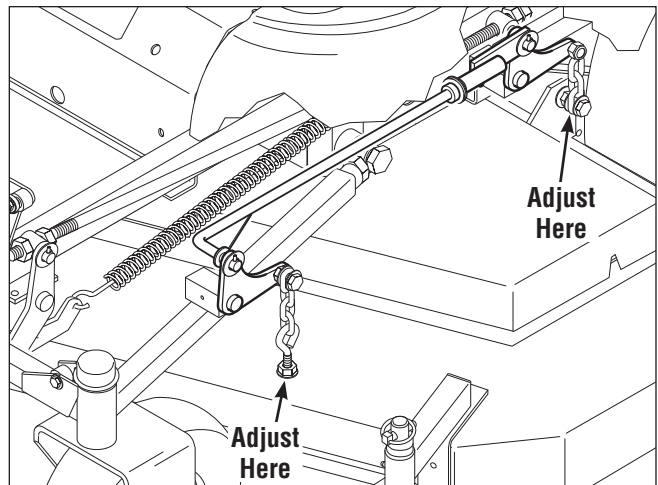

Figure 46. Deck Level & Spring Length Adjustment
4. Adjust the front eyebolts until the chains are tight and the deck is still resting on the 2 x 4's. Tighten jam nuts. See Figure 46.
5. Loosen the nuts and allow the rear of the deck to rest on the 2 x 4's. Slide the chains down in the slots until the chains are tight and tighten the nuts. See Figure 46.